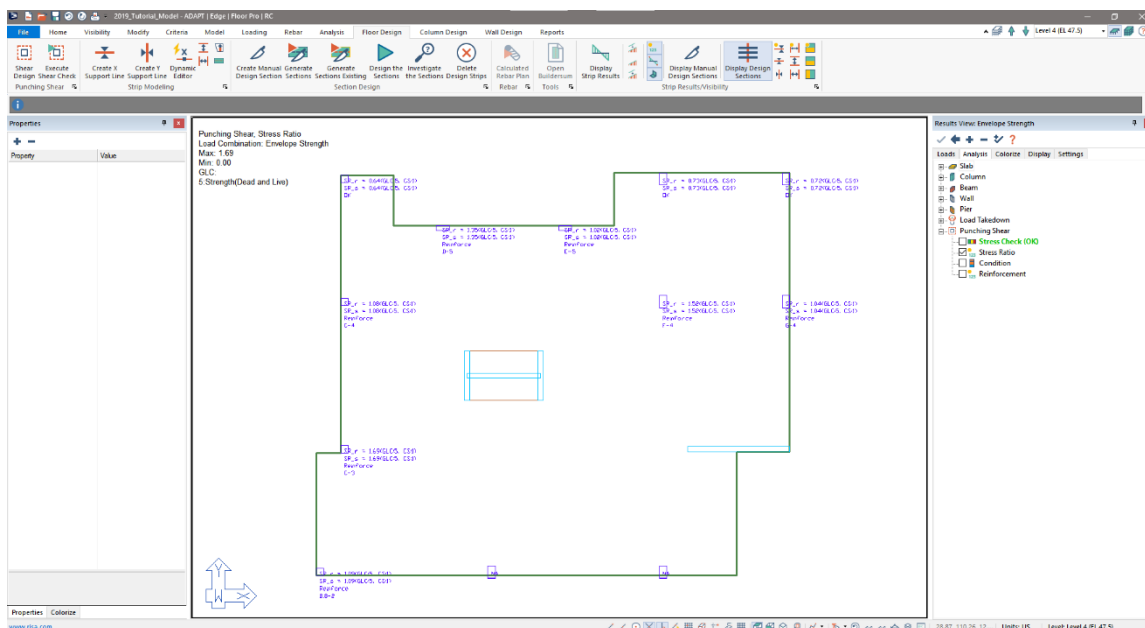

Figure 10-23
- The users screen should look as shown in **FIGURE 10-23**.